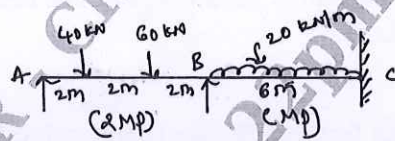

Fig.Q2(b)
b. Determine plastic moment capacity for the beam shown in the Fig.Q2(b). Take factor load of 2.5.